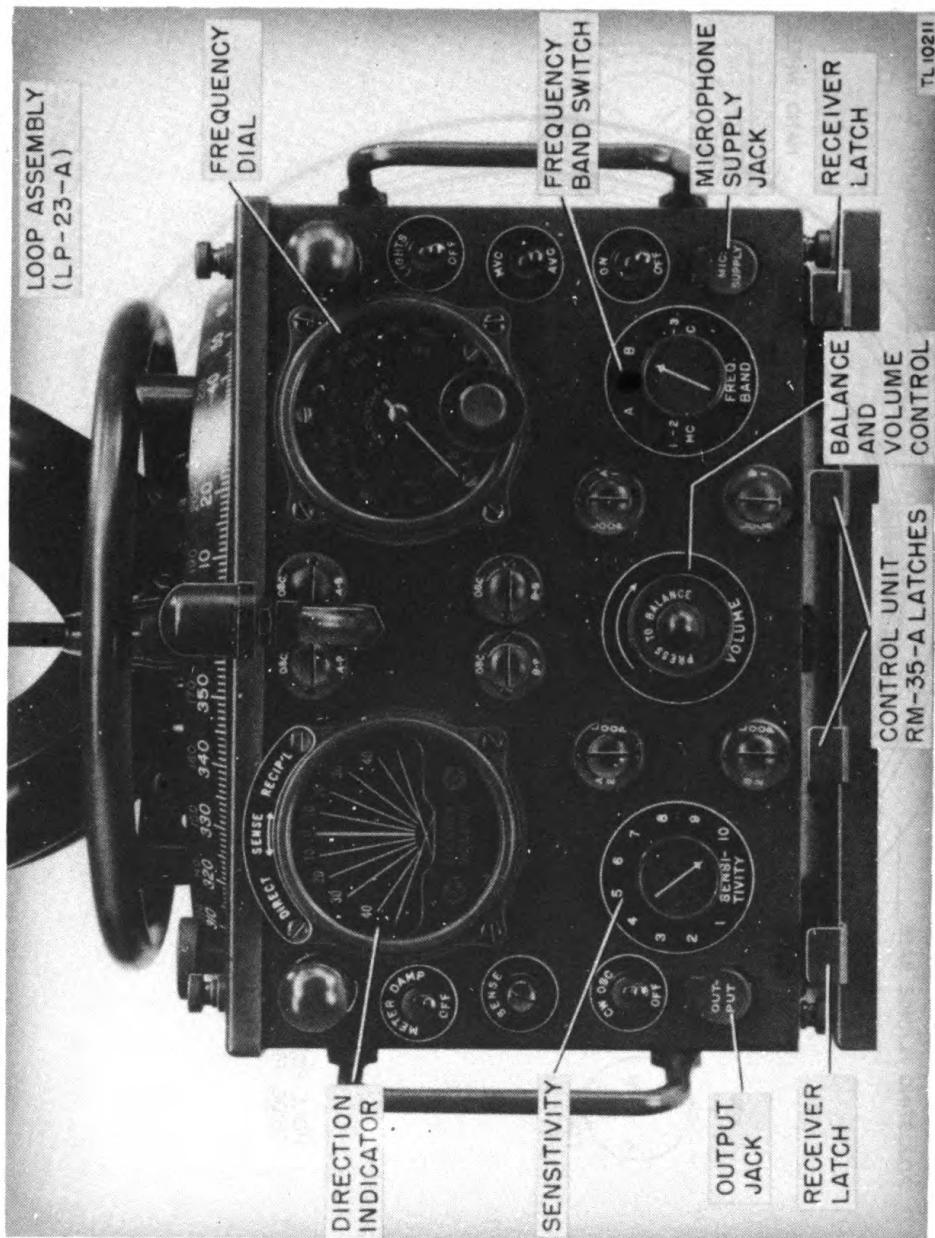

Figure 11. Radio Receiver BC-973-A, front view, showing controls.
a. *Operating steps.* (1) First, check the position of the switches on the front panel (fig. 11 and 12) :